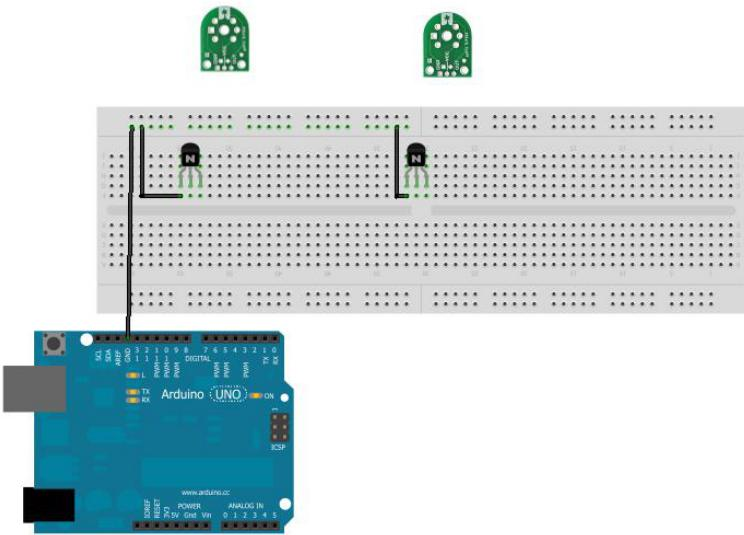

Figure 2-4. Step one. Source: these images were created with *Fritzing*.
1. Connect a wire from the GND pin of Arduino to the GND rail of the breadboard. Connect the GND rail of the breadboard to the EMITTER pin of the transistor (Figure 2-4).